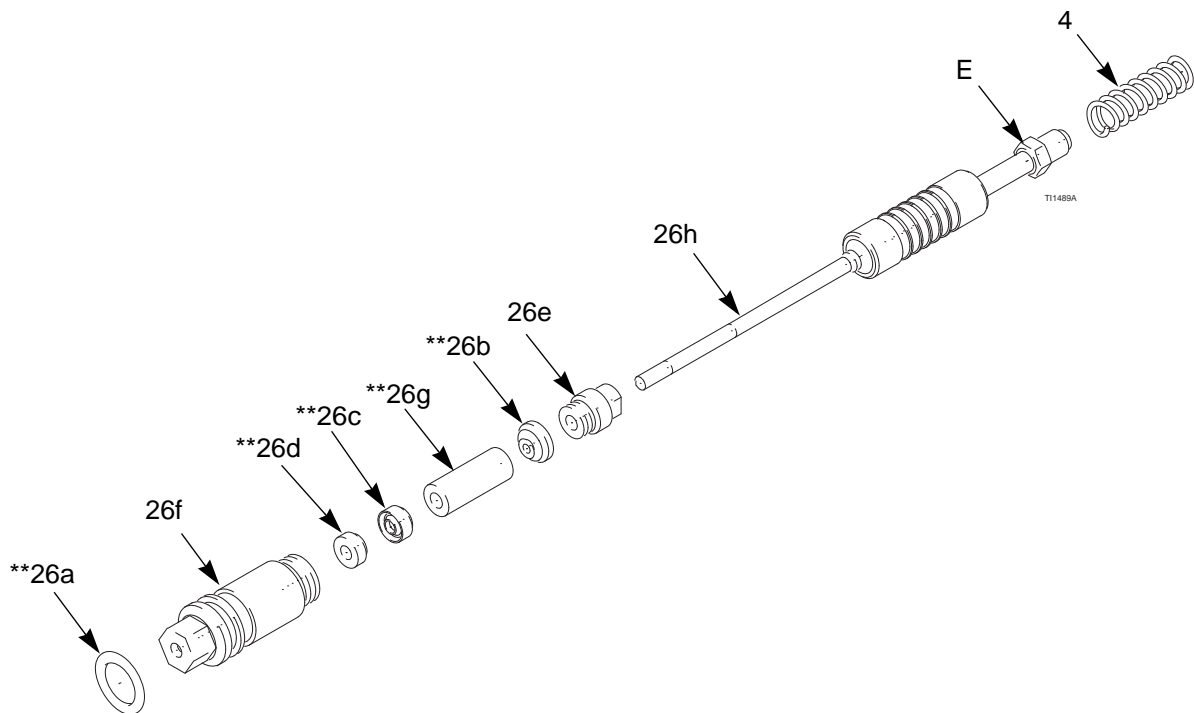

Fig. 28. Packing Rod
1. Place the packing nut (26e) and seal (26b**) on the fluid rod (26h). Flats on the packing nut must face the back of the fluid rod. The seal o-ring must face away from the packing nut. See FIG. 28..
2. Fill the inner cavity of the spacer (26g**) with dielectric grease (40). Place the spacer on the fluid rod (26h) in the direction shown. Generously apply dielectric grease to the outside of the spacer.
6. Install the spring (4) against the nut (E) as shown.
7. Install the packing rod assembly (26) into the gun barrel. Using the multi-tool (37), tighten the assembly until just snug.
8. Install the trigger (30) and screws (8).